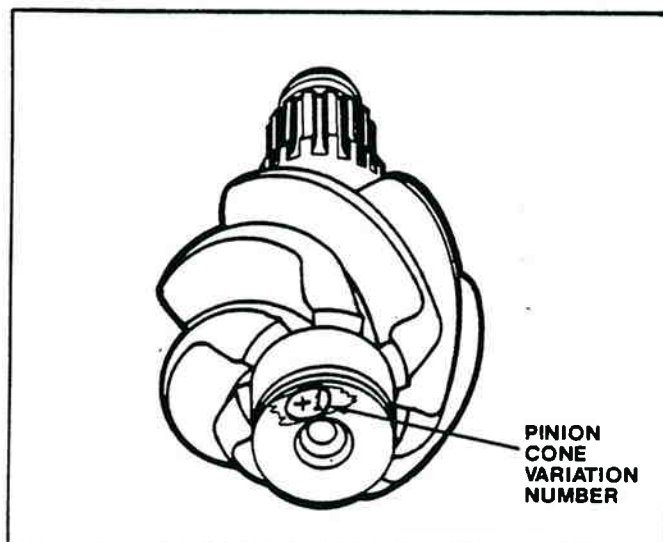

Figure 2-38. Location Of Pinion Cone Variation Number.
- a. Examples of pinion cone variation numbers: PC+3, PC-5, +2, -1, +.01 mm or -.02 mm (Figure 2-38).